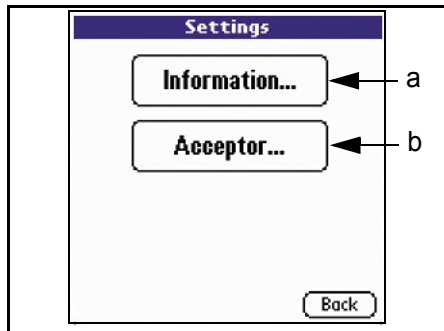
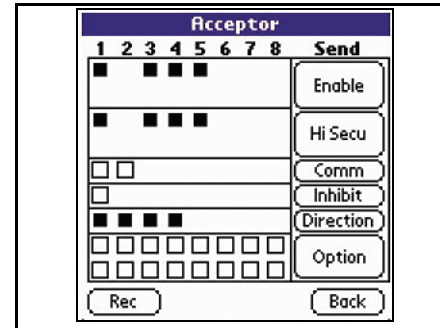

Figure 7 Settings Sub-Menu Screen
Figure 9 Acceptor Menu Screen
4. Select the 'Information' Screen Button (See Figure 7 a on page 14).
6. Select 'Back', and then select the 'Acceptor' Screen Button (See Figure 7 b). The Figure 9 Acceptor Menu Screen will appear displaying the following choices: